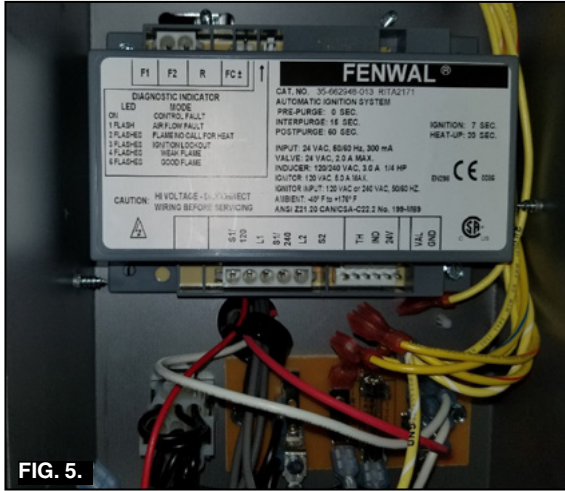

FIG. 5.
1. Disconnect all connector plugs and wires from the legacy ICM. Remove the screws from the legacy ICM. Remove ICM from the heater. (Fig. 5).
2. Install the new ICM into the heater Control Box compartment. Secure the unit with the two (2) screws.